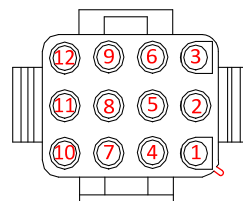

Figure 37
41. Using a pin pusher, push pins 1 (black) and 2 (red) out of the 12-pin connector on the new 8076105 harness and discard (see Figures 37 and 38). Pin 1 is located by looking for the protruding ridge which is adjacent to Pin 1.